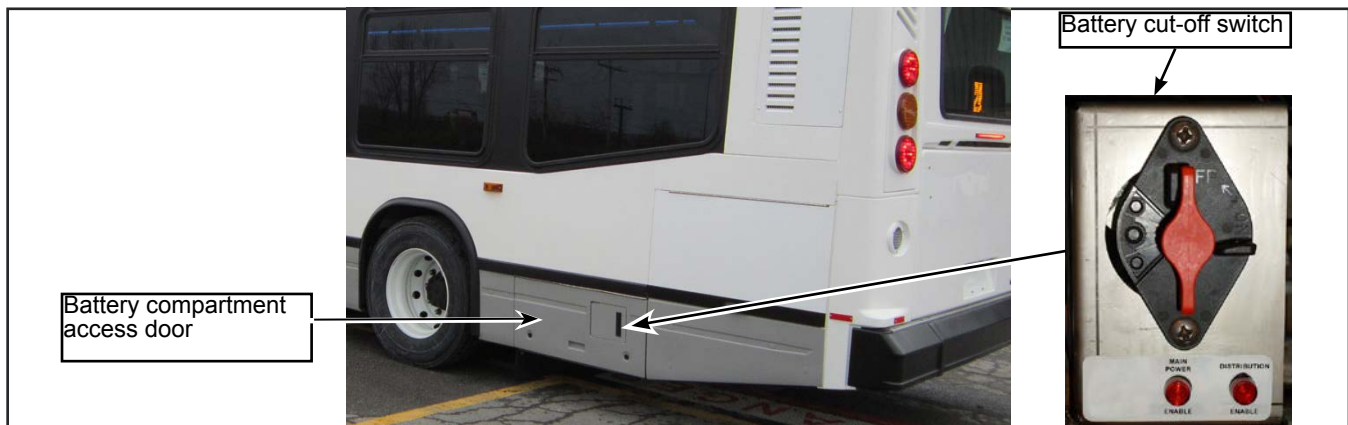

Figure 2 - Battery Compartment Access Door
- 1.2. Open the battery compartment access door (see Figure 2).